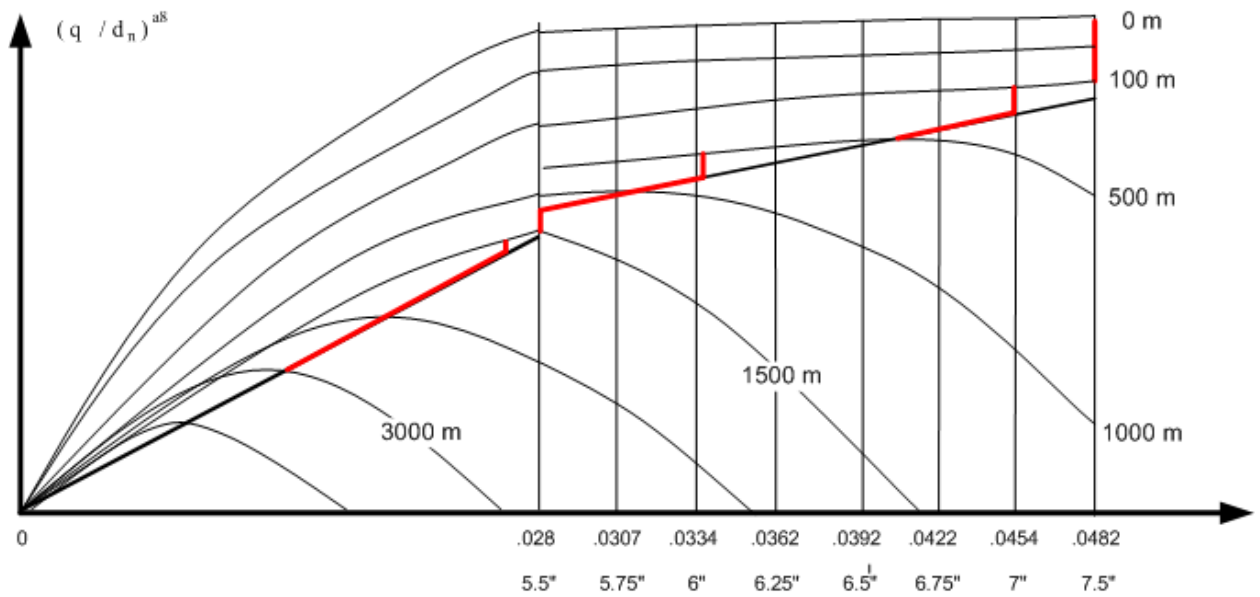

Figure 4-3: Graphical solution.
a) Find first what working area prevails in the boundary zone between pump area II and I, which are valid as indicated in Figure 4.3: